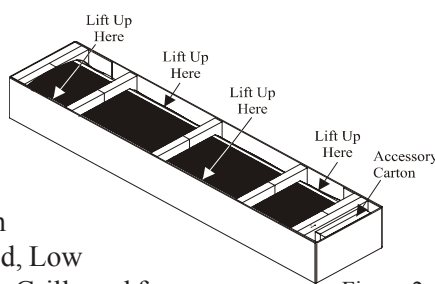

Figure 2
4. Lift up on the rear of the Midrange/High Frequency Column, which is located under the larger Low Frequency Column Grille. Place the entire assembly (Midrange/High Frequency Column with Grille attached, Low Frequency Column Grille and foam packing material) in a safe area. Refer to figure 2.